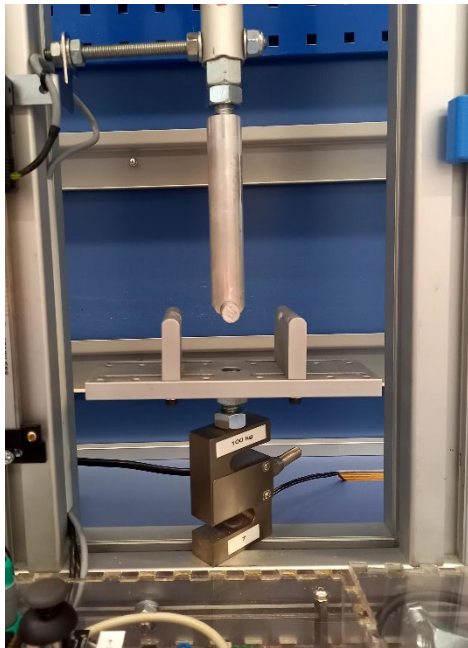
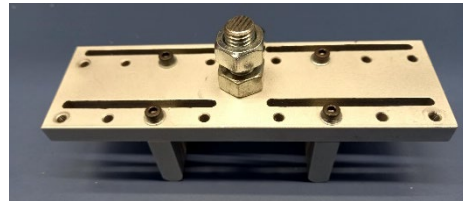

Figure 5: 3 Point Bending Test clamps
Figure 6: Adjustable bottom supports
c. In the **3 point bending setup**, align the clamps such that the top support and the bottom supports are aligned with each other and preferably aligned with the machine, fixate the clamps hand tight using the fixation nuts, see figure 5. The bottom supports can be adjusted with an Allen key size 3, either to fixed positions or to the slots, see figure 6.